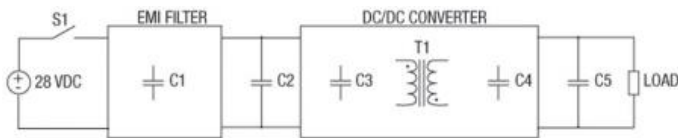

Figure 1
- Figure 1 - Typical power system showing releva...
The input EMI filter will include some capacitance connected across the input line. The DC/DC converter will have capacitance internally across its input and output. A typical power system is shown in Figure 1. There may be additional capacitance at the input to the DC/DC converter, and the load will usually include additional, possibly distributed, capacitance. Each of these capacitors requires current to charge them from their initial or zero state to their final steady state voltage. This current can have a high peak magnitude depending on the input voltage rise time and source impedance, and is referred to as the inrush current. Large peak inrush currents are usually governed by a system-level specification. There is a concern that high spike currents can trip an upstream protection circuit or create electromagnetic interference, upsetting sensitive adjacent circuitry or interfering with RF signals.